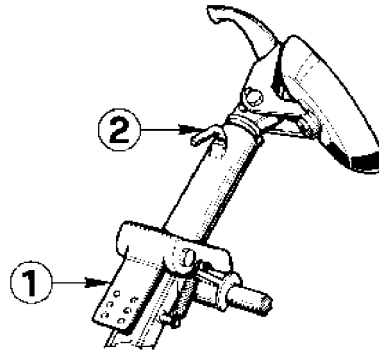

Fig.14
14) and hold handle (#2 fig.14).The arm is balanced by a spring-loaded mechanism and the effort required is minimum.
8. To turn the tool remove pin (#2 fig.14).